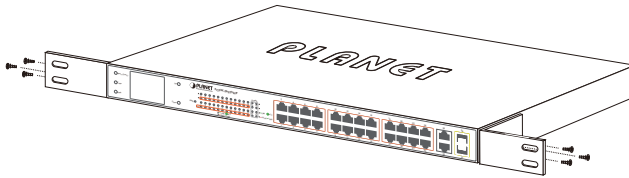

Figure 3-2: Attaching the Brackets to the 802.3at PoE+ Switch
Step 2: Attach a rack-mount bracket to each side of the 802.3at PoE+ Switch with supplied screws attached to the package. Figure 3-2 shows how to attach brackets to one side of the 802.3at PoE+ Switch